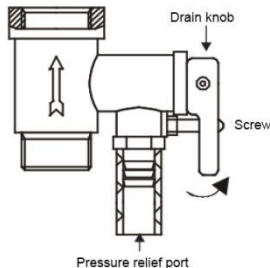

Fig 6
4. Screw the safety relief valve on the inlet nozzle, which is marked in blue and has a water flow direction arrow in such a way that the water flow coincides with the direction of the arrow on the valve body. Put the water drainage tube\* (water may appear during heating) on the pressure relief port of the safety relief valve to allow water drainage into the sewer (see Fig. 6) (the tube must be directed downwards and must not be bent).
6. To drain the internal tank, use the safety relief valve: unscrew the screw of drain knob on the safety relief valve and move the drain knob to the up position — the hot water outlet tap must be open and the cold water inlet tap must be closed (see Fig. 6). Water will start flowing from the pressure relief port of the safety relief valve.